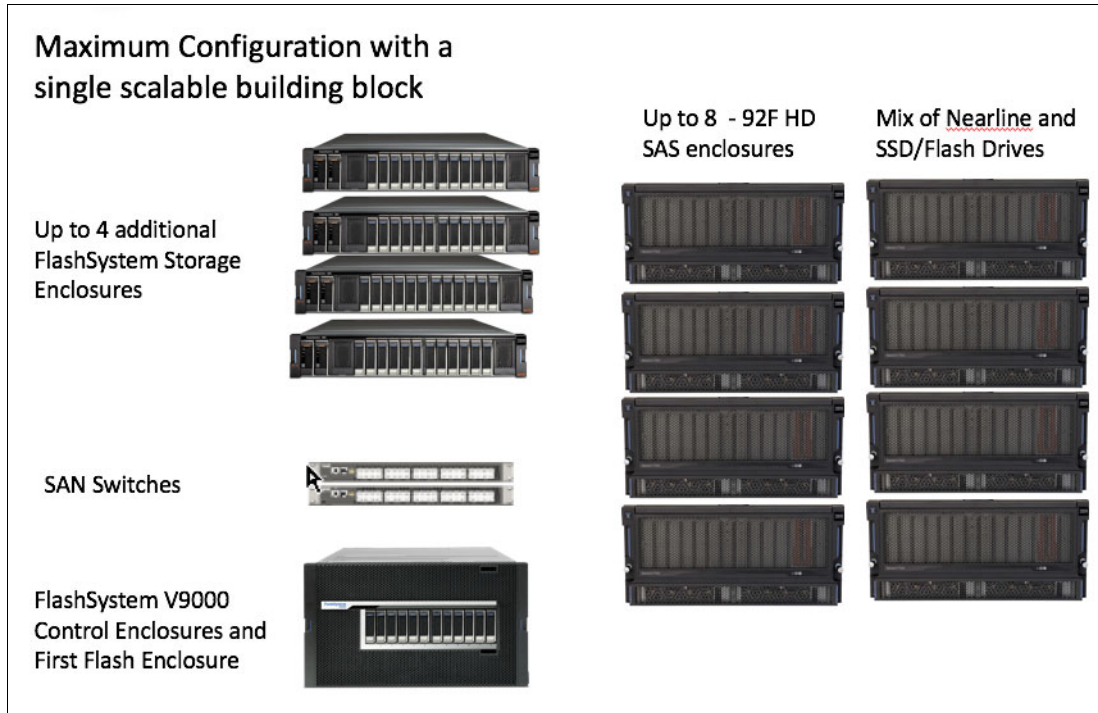

Figure 7 Single Scalable Building Block Max Config with 92F Enclosure
With the introduction of IBM FlashSystem V9000 Software V7.8, FlashSystem V9000 now supports the addition of expansion enclosures. High-density (HD) Enclosure Model 92F accepts both nearline and Flash Drives. This tiering option allows eight enclosures per building block with a max capacity of 1350 TB each. See the maximum enclosure configuration illustration in Figure 7.